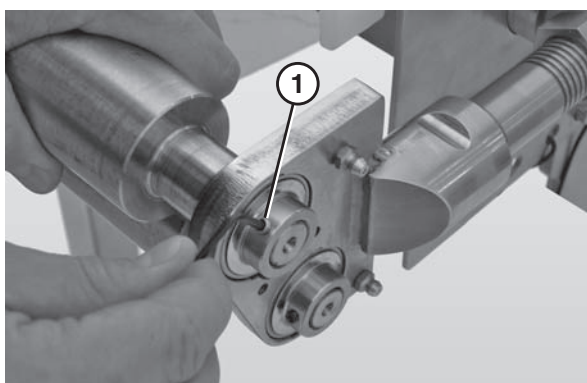

Figure 85
5. Use a 4 mm hex wrench to loosen all the bearing fasteners (**Figure 85, item 1**).